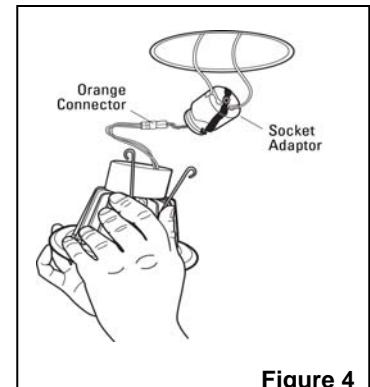

Figure 4
- Securely screw socket adapter into socket inside the can. Plug the orange connector of socket adapter into the LED module's mating orange connector. (Figure 4)